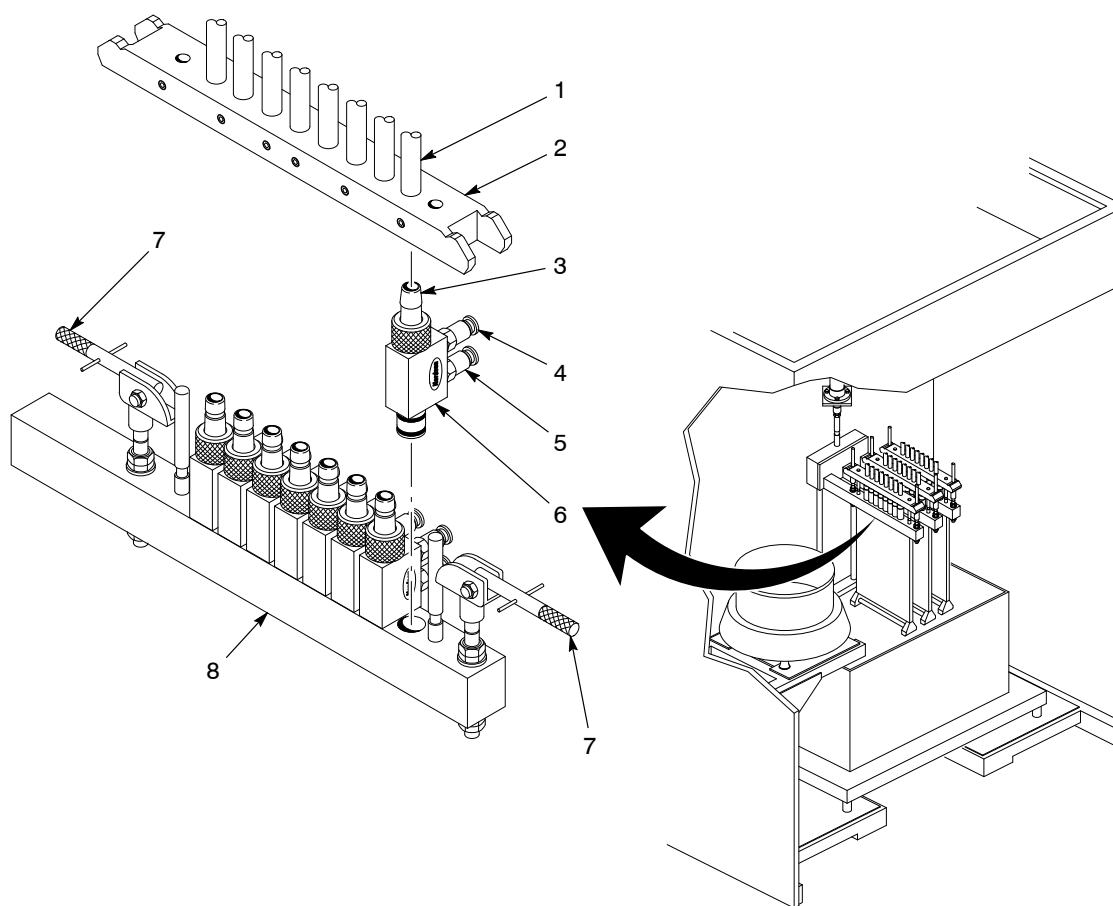

Figure 1 Removing and Installing the Inline Powder Pump
2. See Figure 1. Move the clamping handles (7) to the down position.
3. Lift the feed hose manifold (2) off the pumps. Be careful not to damage the pump venturi throats (3).
4. Disconnect the air tubing from the flow rate (5) and atomizing air (4) fittings.
5. Pull the pump (6) off the manifold block (8) with a slight twisting motion.
1. See Figure 1. Push the pump (6) into the manifold block (8) until the pump body bottoms out against the block.
2. Connect the flow rate and atomizing air tubing to the flow rate (5) and atomizing air (4) fittings.
3. Install the feed hose manifold (2) onto the pump venturi throats (3).
4. Move the clamping handles (7) to the up position.